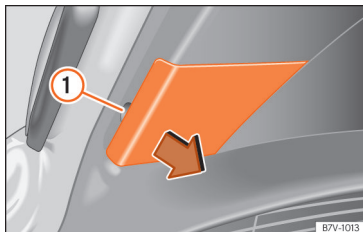

Fig. 68 On the rear lid: remove the cover.
- Extract the cover carefully using the flat part of the screwdriver from the vehicle tool kit as a lever (» **page 41**) on the indent » **Fig. 68** ①.